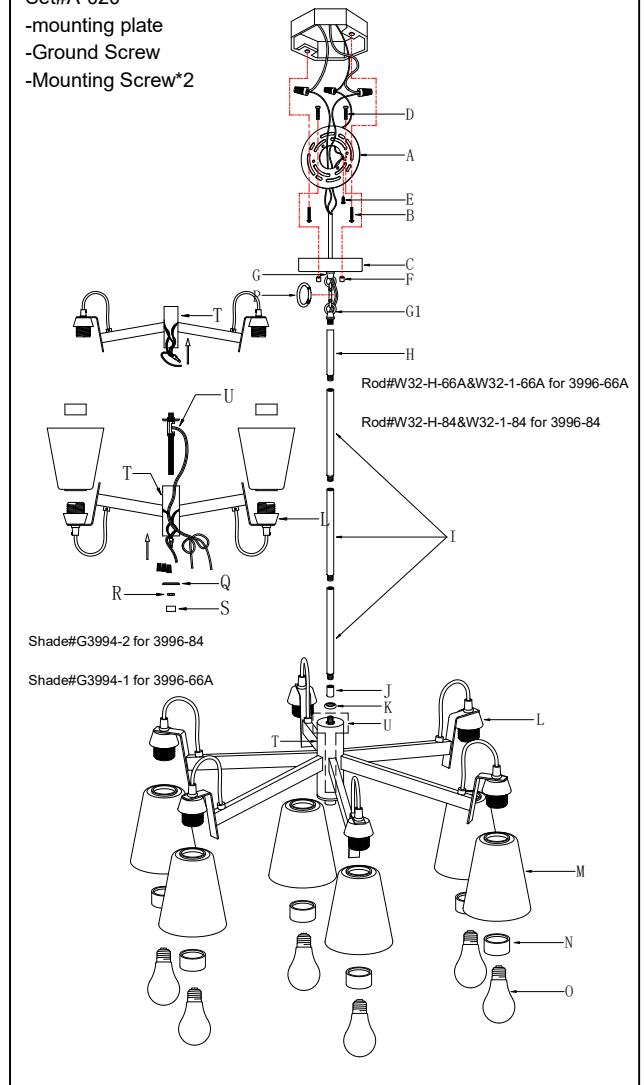

Fig. 2
CONNECTING THE WIRES (Fig.2)
8. Connect the electrical wires as shown in fig 2, making sure that all wire connectors are secured. If your junction box has a ground wire (green or bare copper), connect the fixture's ground wire to it. Otherwise, connect the fixture's ground wire directly to the mounting plate (A) using the green screw provided.